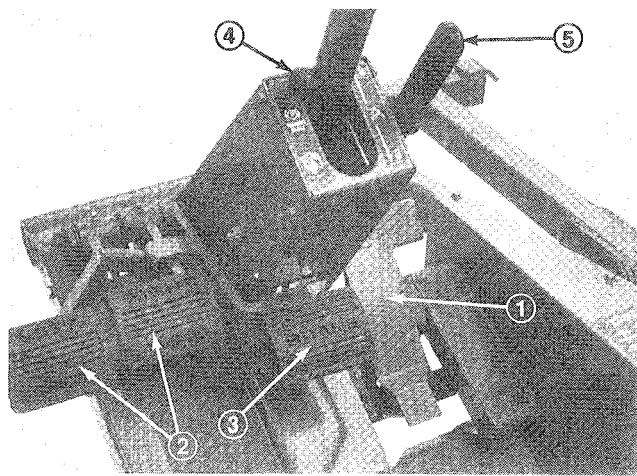

Figure 20
**Traction Pedal** (Fig. 20)—Traction pedal has two functions; one is to make the machine move forward, the other is to make it move backward. Using the heel and toe of the right foot, depress top of pedal to move forward and bottom of pedal to move backward. Ground speed is proportionate to how far pedal is depressed. For maximum ground speed with no load, traction pedal must be fully depressed while throttle is in FAST position. Maximum speed forward is approximately 9.5 mph (15 km/hr). To get maximum power under heavy load or when ascending a hill, have throttle in FAST position while depressing traction pedal slightly to keep engine rpm high. When engine rpm begins to decrease, release traction pedal slightly to allow engine rpm to increase.
**Turn Pedals** (Fig. 20)—The left and right turn pedals are connected to the left and right front wheel brakes since both brakes work independently of each other. The brakes can be used to turn sharply or to increase traction if one wheel tends to slip while operating on a hillside. However, wet grass or soft turf could be damaged when brakes are used to turn.
**Tilt Steering Control** (Fig. 20)—Lever on right side of steering column. Pull lever rearward to adjust steering wheel to desired fore or aft operating position and push lever forward to lock adjustment.
**Brake Pedal** (Fig. 20)—Whenever the engine is shut off, the parking brake must be engaged to prevent accidental movement of the machine.